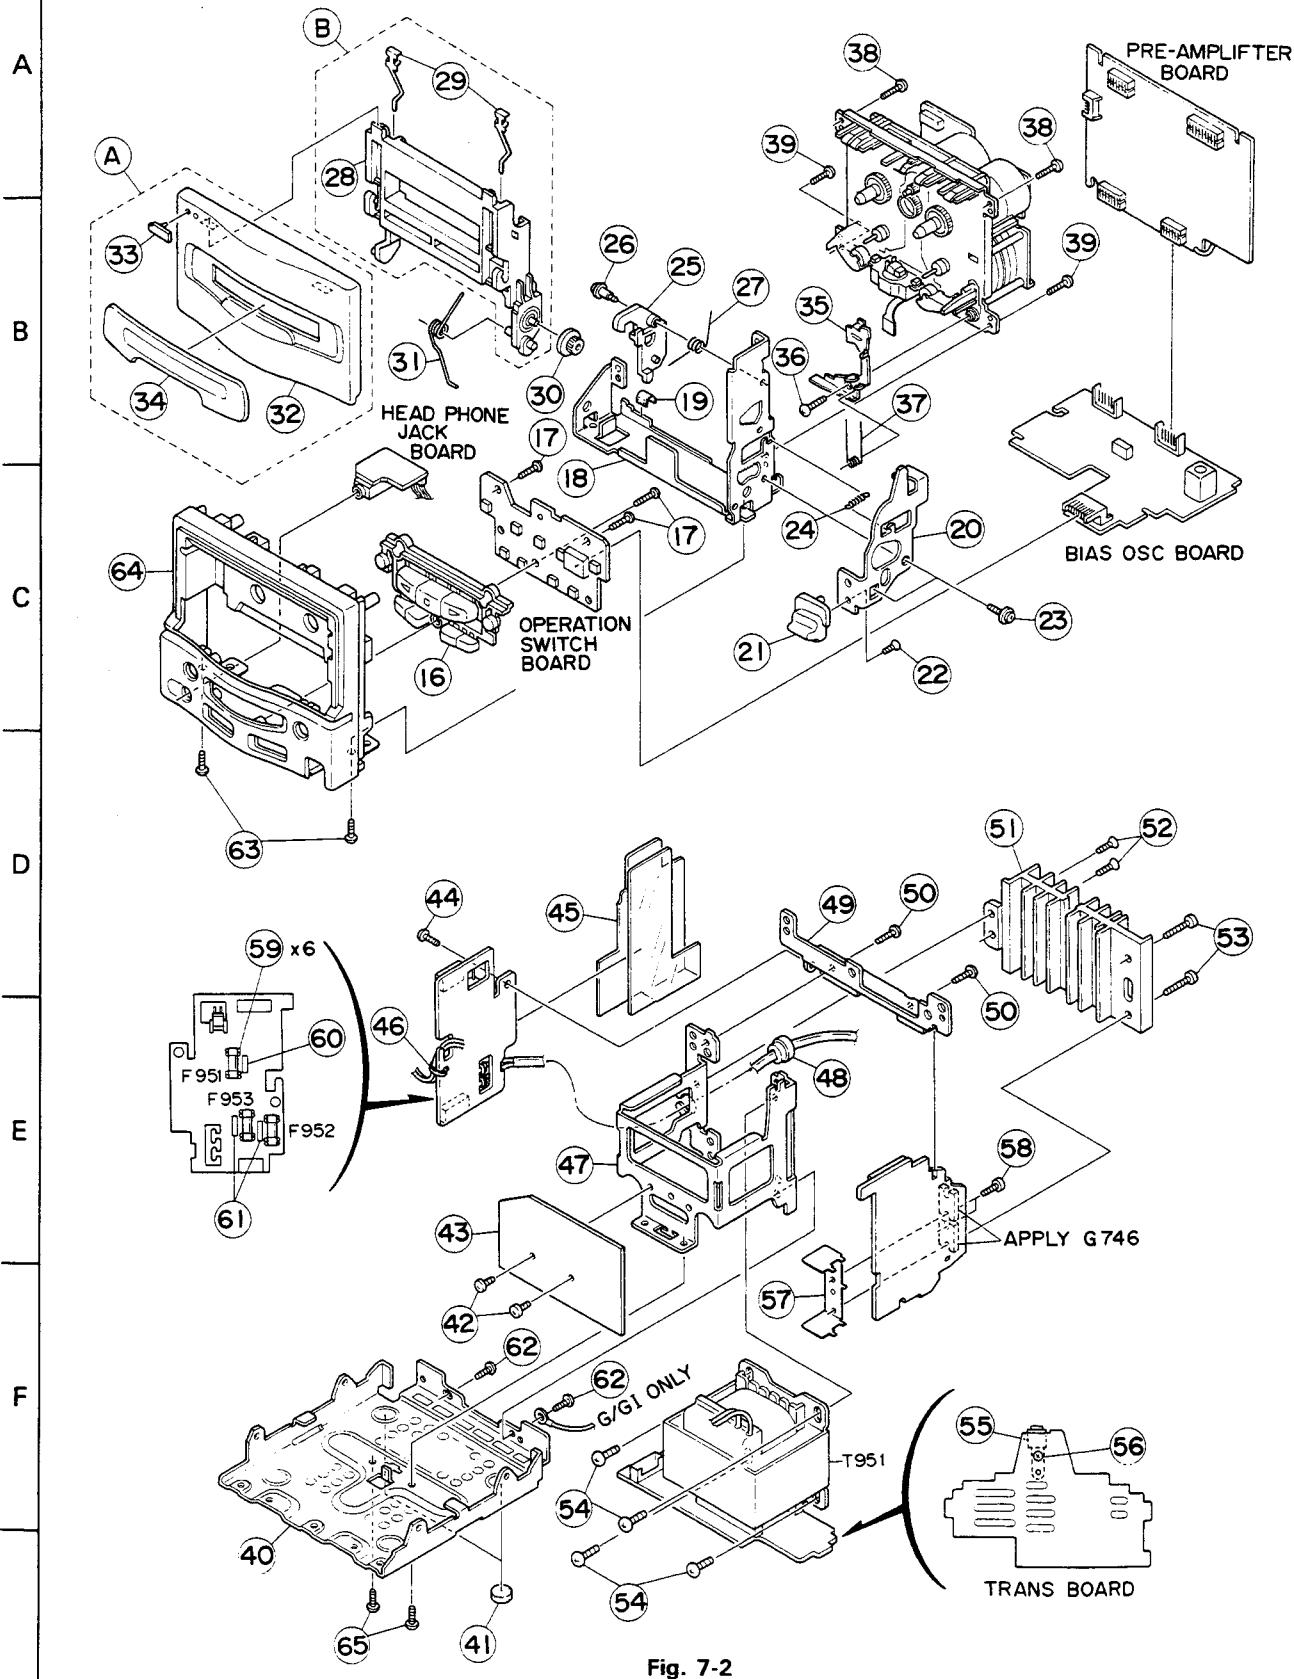

Fig. 7-2
• Cassette Mechanism (Fig. 7-2, 3)
2. Remove the four screws (38) x 2 and (39) x 2 retaining the cassette mechanism from the front panel ass'y.
• Headphone Jack P.C. Board (Fig. 7-2, 3)
(Fig. 7-2, 4)
• Power Supply Transformer (Fig. 7-2, 5~7)
1. Remove the four screws (⑤5 × 2 and ⑥2 × 2) retaining the bottom cover and power supply unit.
2. Remove the four screws (⑤2 × 2 and ⑤3 × 2) retaining the heat sink from the transformer bracket and dismount the power amplifier P.C. board.
3. Remove the one screw ④4 retaining the fuse P.C. board from the transformer bracket.
8. Remove the four screws ⑤4 retaining the power supply transformer from the transformer bracket.